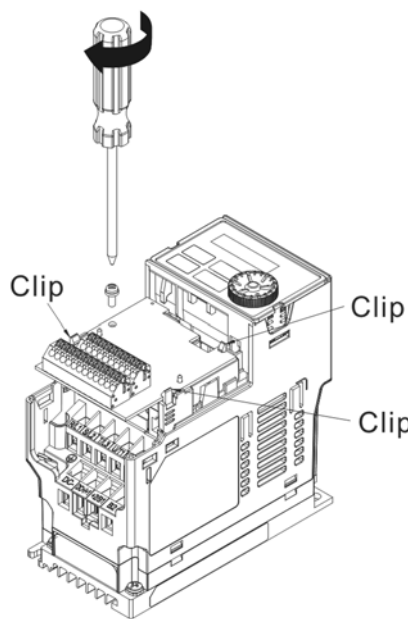

Figure 8-13
5. As shown in the Figure 8-13, make sure that three clips are properly engage the option card and then fasten the screw [Suggested torque value: 4–6 kg-cm / (3.5–5.2 lb-in.) / (0.39–0.59 Nm)].